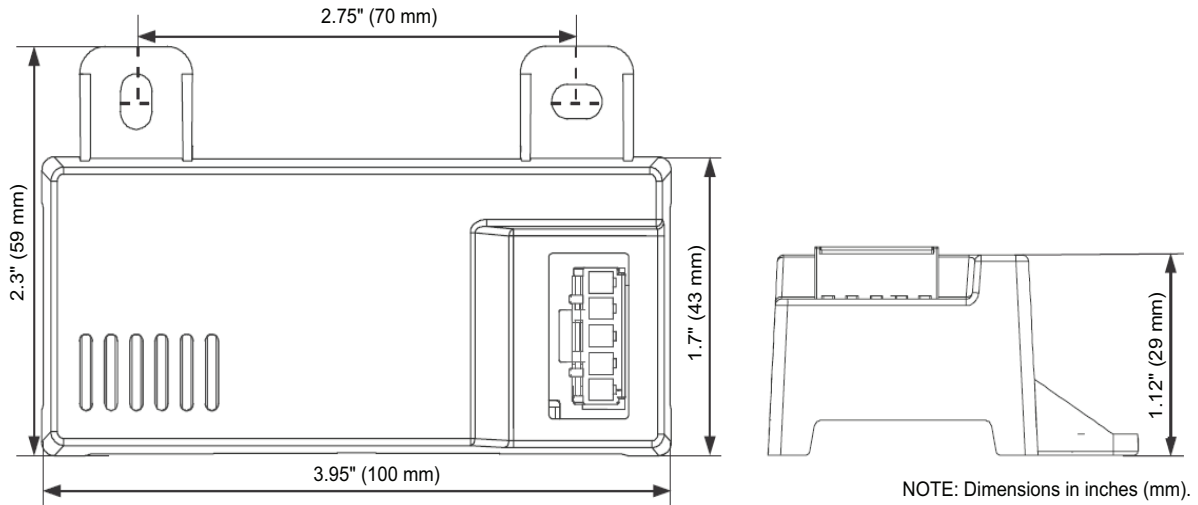
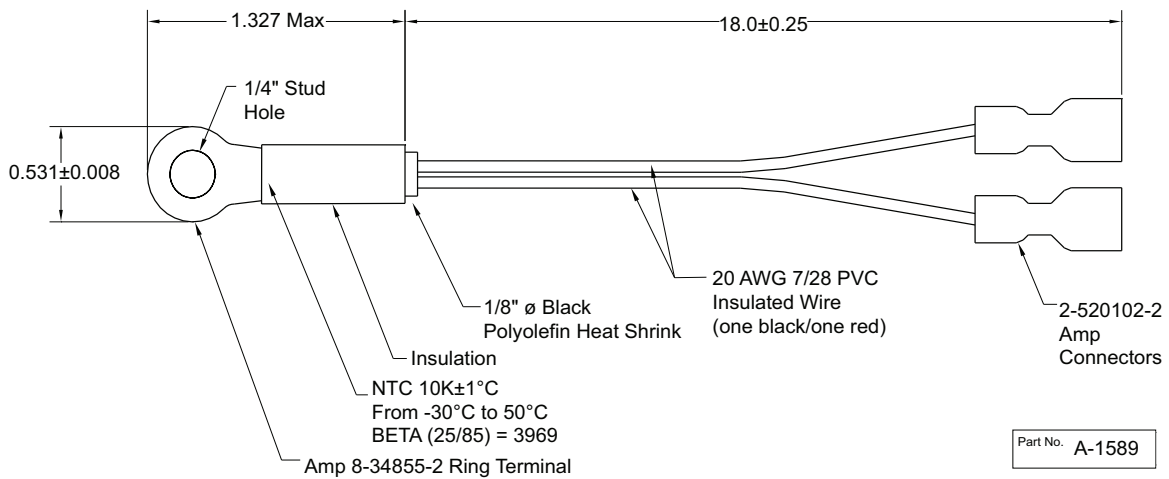
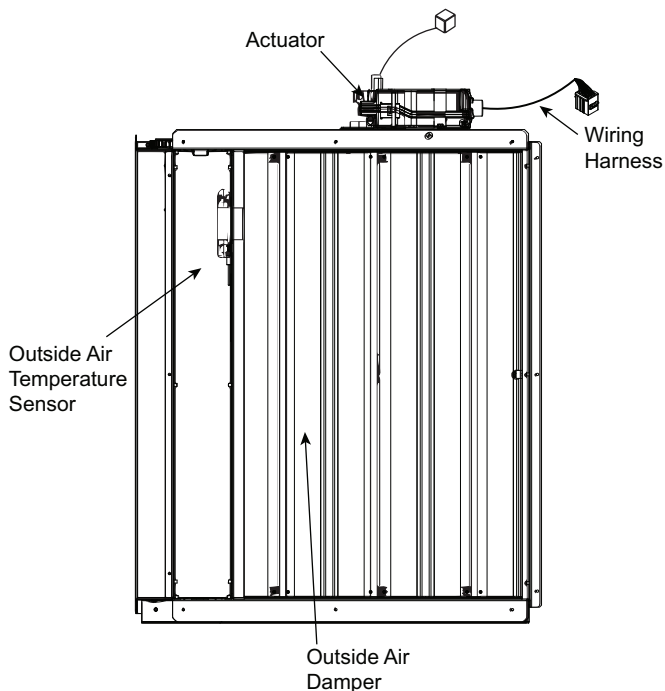

Fig. 57 — HH57LW001 Dimensional, Connection and Switching Information
Fig. 58 — HH79NZ039 Dry Bulb and Mixed Air Sensor Wiring
Fig. 59 — EconomizerONE Component Locations (CRECOMZR108A00 Shown)
When using the HH57LW001 enthalpy sensor (see Fig. 57) for outside air changeover, the existing HH79NZ039 dry bulb sensor (see Fig. 58) must be removed. The enthalpy sensor will be mounted in the same location as the dry bulb sensor (see Fig. 59). When the enthalpy sensor's OA (Outside Air) temperature, enthalpy, and dew point are below their respective setpoints, the outside air can be used for free cooling. When any of these are above the setpoint, free cooling will not be available. Enthalpy setpoints are configurable and create an enthalpy boundary according to the user's input. For additional details, see Fig. 60-61 and Table 27.
The optional enthalpy control sensor (P/N: HH57LW001) communicates with the POL224 economizer controller using the 5-wire harness, 48TC005213. The HH57LW001 sensor can be used as a single outside air enthalpy, a differential return enthalpy, or a differential return temperature sensor. Refer to the base unit control wiring diagrams found earlier in this book to wire the HH57LW001 enthalpy sensor for each option. Use Fig. 57 and Table 29 on page 45 to locate the wiring terminals for each enthalpy control sensor.
Economizers are shipped standard with an HH79NZ039 outside air dry bulb sensor (see Fig. 58). System default setting (high temp limit) is 63°F (17°C) and has a range of 48°F to 80°F (9°C to 27°C). Sensor is factory installed on economizer.
If installing the optional HH57LW001 enthalpy sensor, the HH79NZ039 dry bulb outside air sensor must first be removed. Wire sensor to harness 48TC005213 and the (5) wires from the harness to the EconomizerONE harness in the return air chamber. Harness 48TC005213 has a 5-pin plug that connects directly to the HH57LW001 enthalpy sensor. Refer to the base unit control wiring diagrams earlier in this book for wiring connections. Refer to Fig. 57 and Table 29.